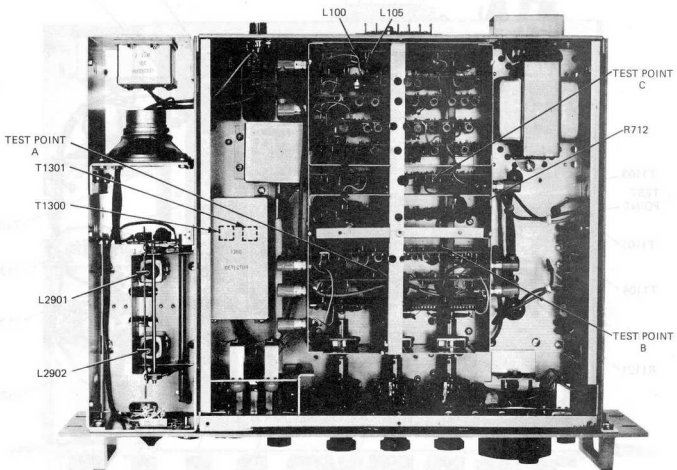

Figure 5-5. Top View with Covers Removed
- b. Refer to figure 5-5. Adjust the BFO transformer T1300 on the outside of the board for maximum DC voltage. This tunes the detector for the normal SSB channel.
- a. Refer to figure 5-5. Set the 0.1 MHz frequency switch to display 0.9 and adjust the variable resistor R712 on the VCO board for 9.5 volts as measured at the ring of the variable resistor.
- h. Place a scope probe on test point A shown in figure 5-5 on the Control Line board and refer to the sawtooth waveform shown in the lower right hand corner of the Synthesizer schematic figure 5-35. A small horizontal step should appear approximately 1/3 of the way up on the leading edge of every other cycle.
- a. Refer to figure 5-5. Attach an RF probe to test point B on the Balanced Mixer card.